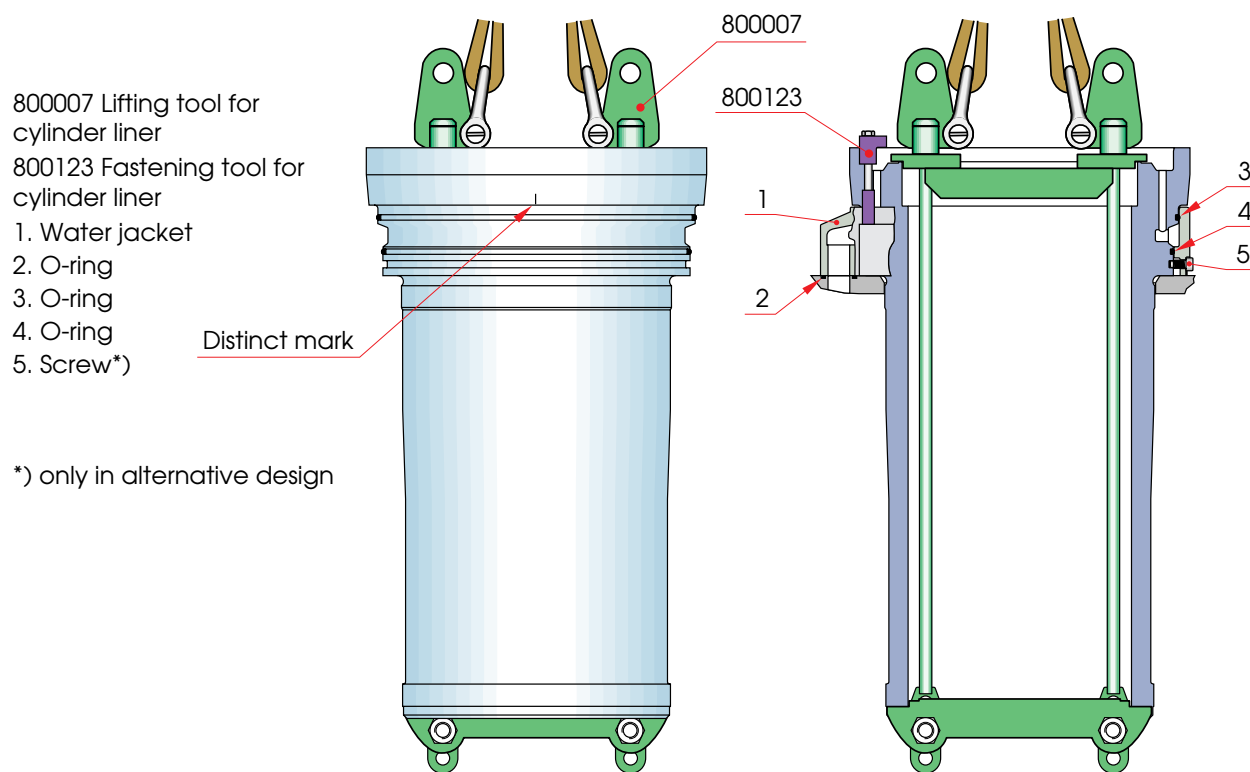

Fig 10-4
- 2 Remove the protecting cover** and assemble the lifting tool 800007, see Fig 10-4.
- 8 Loosen the fastening screw (5)** (only in alternative design).
- 10 Remove the water jacket (1),** see Fig 10-4.
- 3 Mount the water jacket (1)** and tighten the fixing screws by hand.
- 4 Lubricate the guiding faces** with grease and assemble the lifting tool, see Fig 10-4.
- 6 Lower the liner carefully into the bore** of the engine block. When the lower part of the liner touches the engine block, align the liner so that the distinct mark on the liner is directed towards the driving end of the engine, on the V-engine B-bank towards the free end of the engine, see Fig 10-4.
- 7 Mount the screw (5)** and loosen the water jacket fixing screws (only in alternative design).
**3 Mount the fastening tool** for cylinder liner 800123, see Fig 10-4.